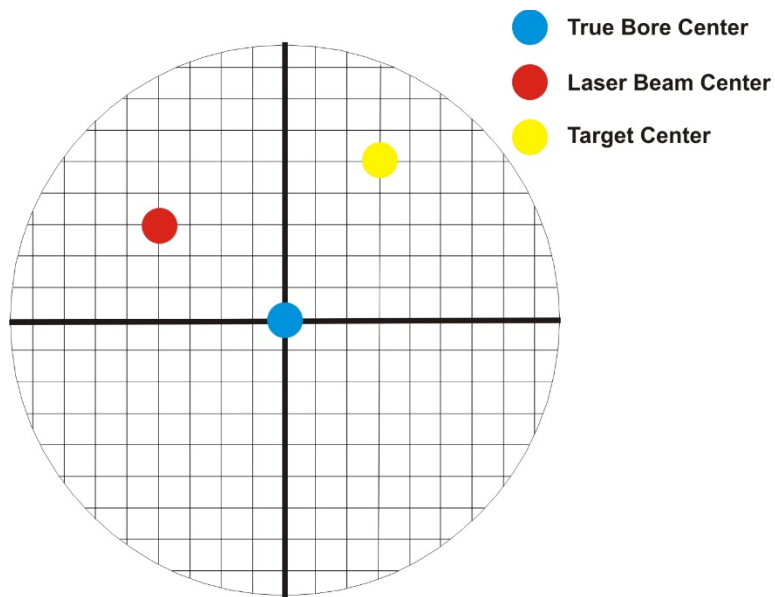

Figure 23 – Target in the NORMal position
**Figure 23** represents the target in the NORMal position, with the cable *down*. If each square represents .001 in., the Target Center is .002 in. higher than the Laser Beam Center (+.002 in.) and is .007 in. to the right of the Laser Beam Center (+.007 in.).